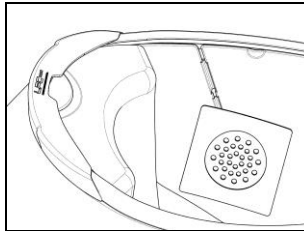

Fig. 23
- Position the right loudspeaker in its housing, inserting the cable in the special groove (Fig. 23). If necessary, secure the earphone using the adhesive supplied as standard equipment.